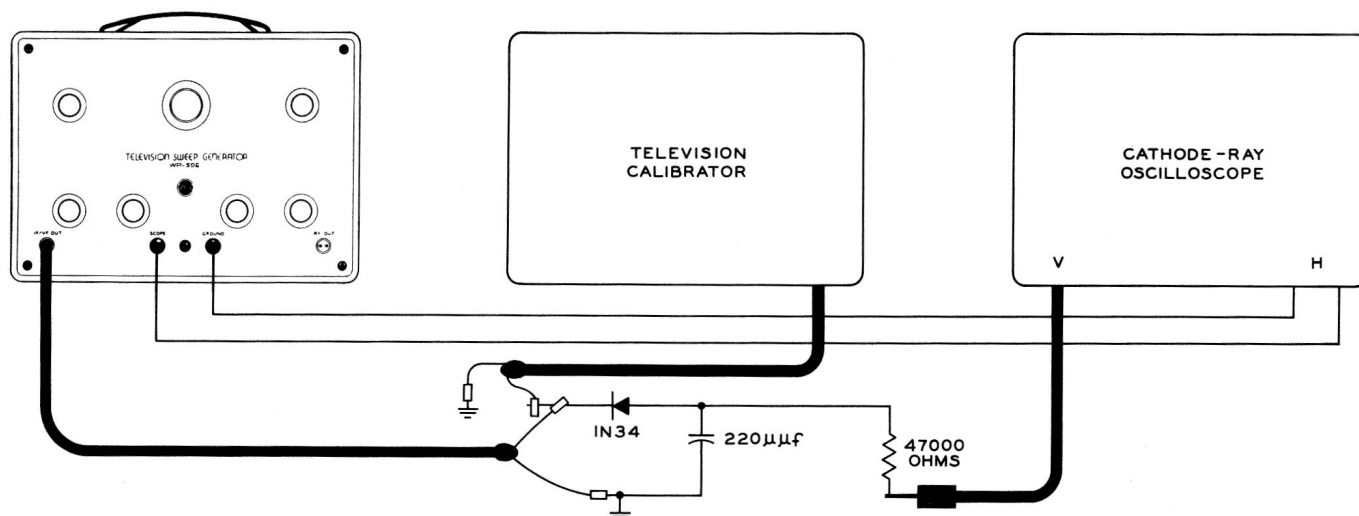

Figure 16. Setup for IF/VF Alignment of the WR-59C
4. Rearrange the setup as illustrated in Figure 16. Note that the two 150-ohm resistors across the input to the detector have been removed and the IF/VF Output Cable is used in this setup.